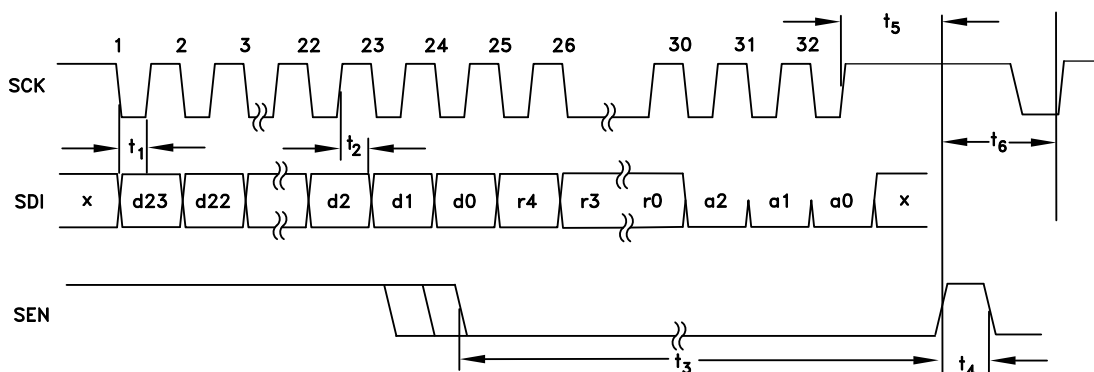
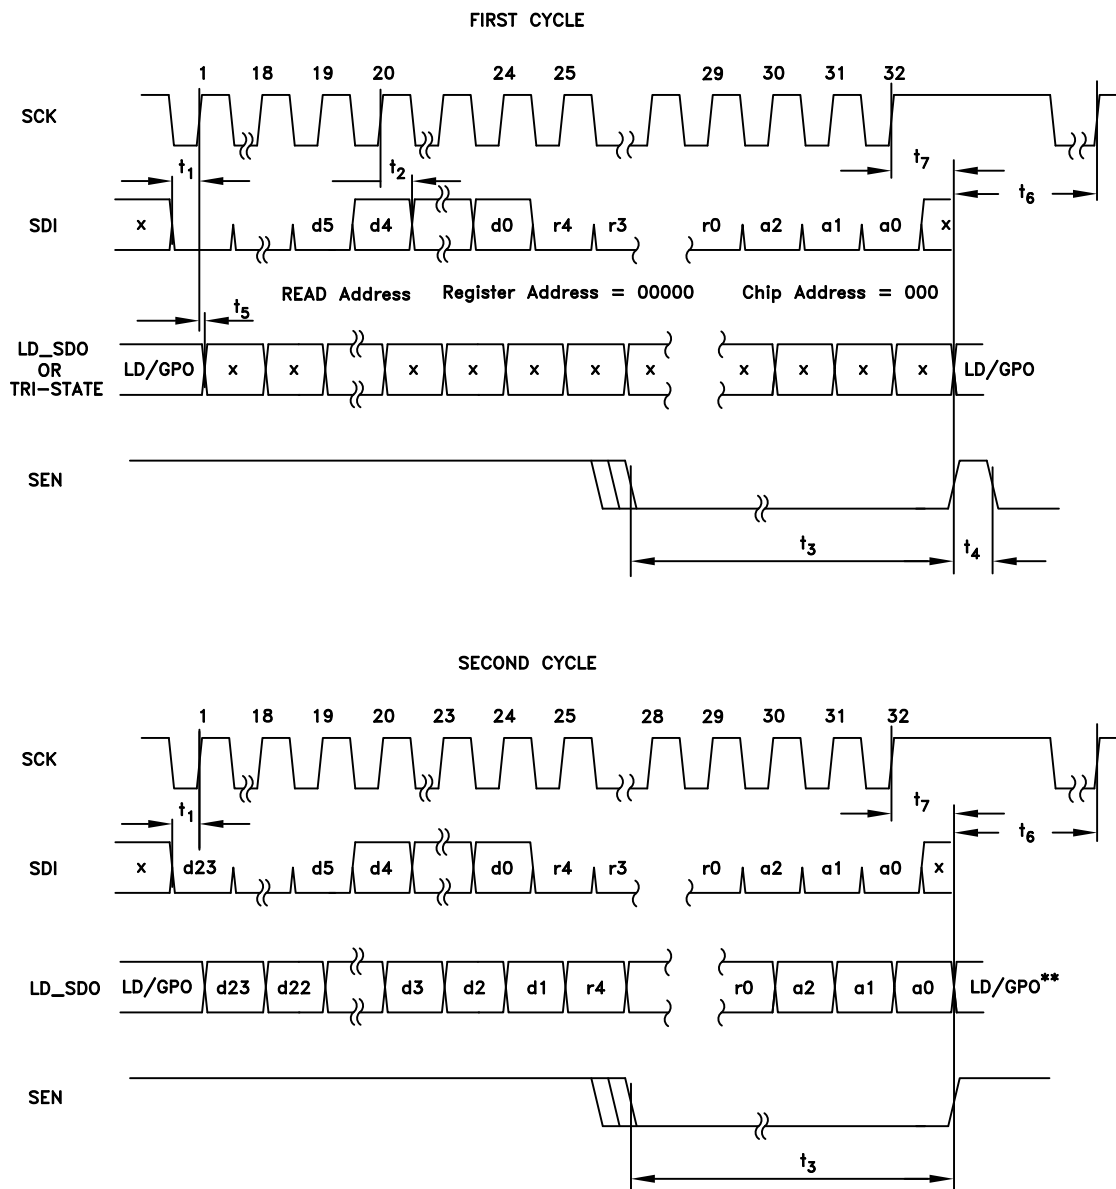

Figure 47. Open Mode - Serial Port Timing Diagram - WRITE
Figure 48. Serial Port Timing Diagram - READ
The Serial Port Open Mode, shown in Figure 47 and Figure 48, features:
A typical WRITE cycle is shown in Figure 47.
A typical READ cycle is shown in Figure 48.
- The Master (host), on the first 24 falling edges of SCLK places 24-bit data, d23:d0, MSB first, on SDI as shown in Figure 48. d23:d5 should be set to zero. d4:d0 = address of the register to be READ on the next cycle.